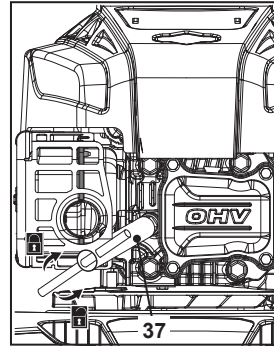

Fig. 32
2. Loosen the spark plug anti-clockwise using the spark plug wrench (37) and remove it carefully (Fig. 32).